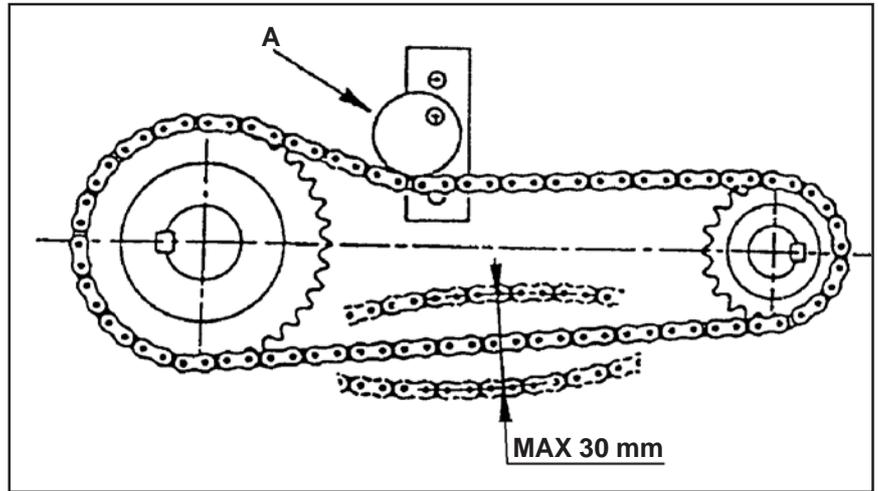

fig.1
2) Remove the cardan shaft from the power takeoff (1, fig. 1).